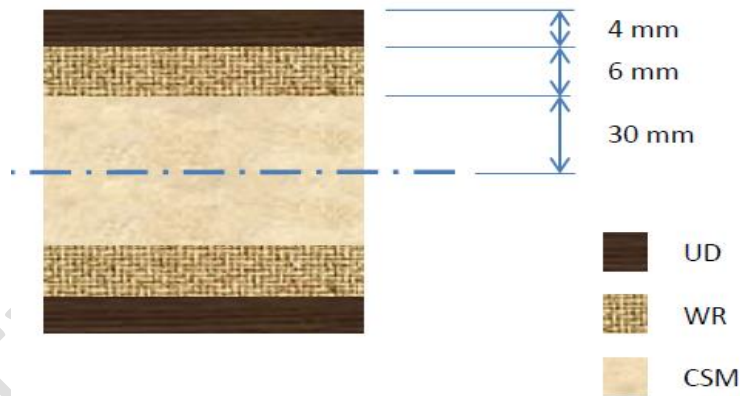

Figure Q2
a) A simply supported beam of dimensions 80 mm wide by 6m long is manufactured from glass-reinforced polyester with symmetrical cross-section construction is shown in Figure Q2 below. Using the material and structural properties given in the Table Q2, **Calculate the number of beams required** if the beam needs to support 12.5kN at its mid-point. Assume that each beam supports the same load and that the Elastic Modulus of Glass is 70 GPa and that the materials design strain is 0.2%. The resin used has an Elastic Modulus of 2.7 GPa.